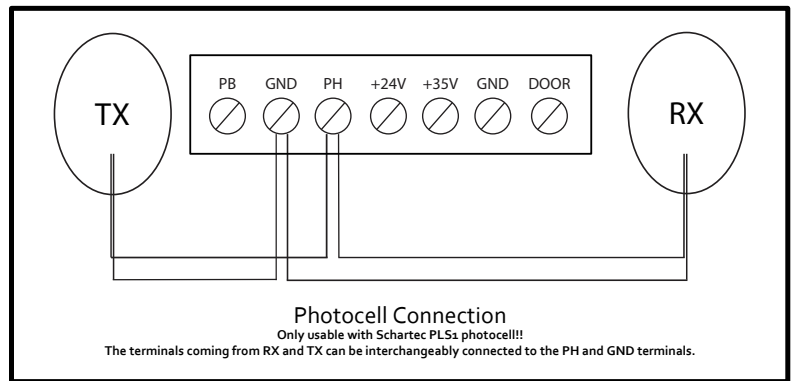

Fig. 15
**Comment:** Make sure that the photocell has been properly installed and connected (Figure 15).